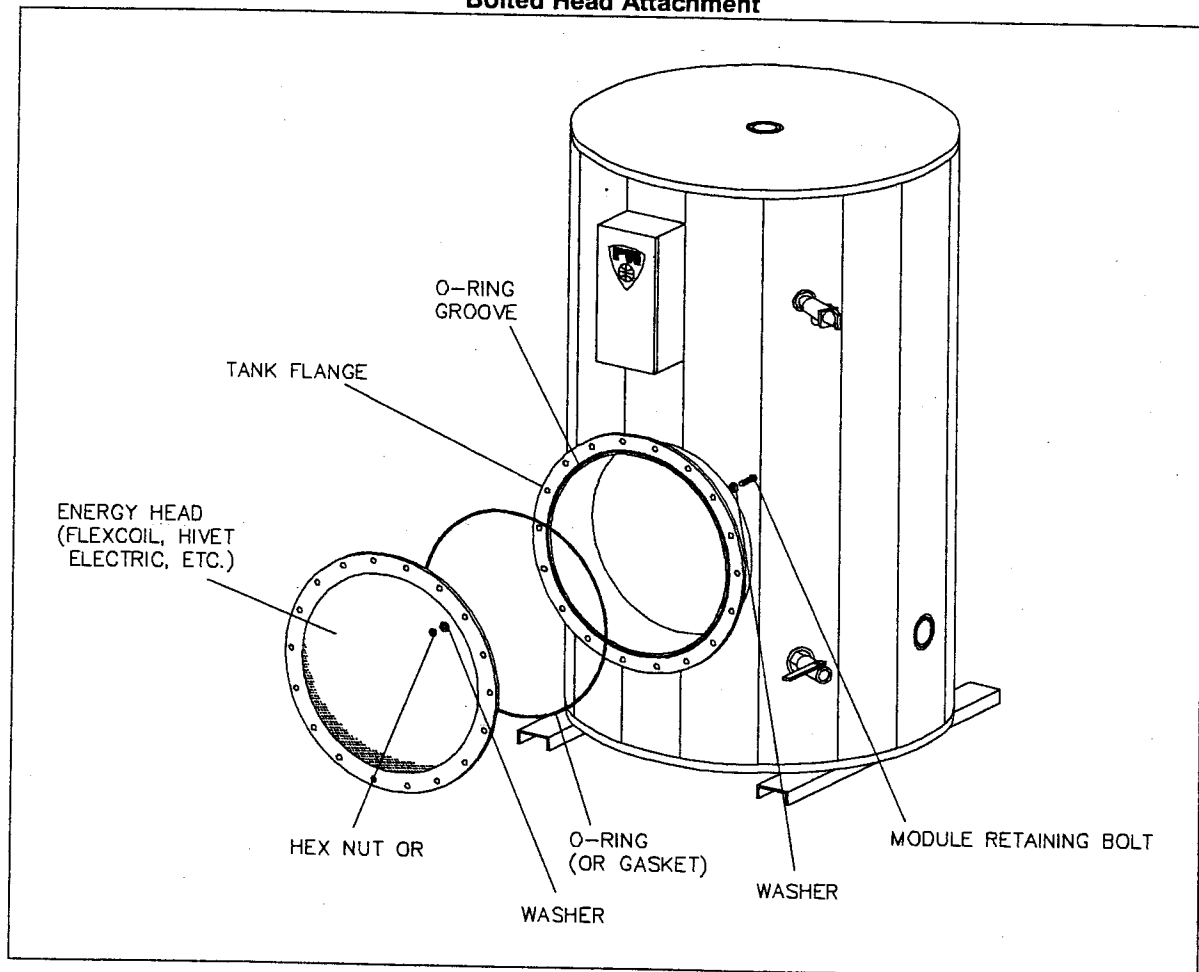

Figure 9
To clean heater through the rear access flange or the module opening if no rear access head is available, proceed as follows. (See Figure 9, page 17 for detailed head removal procedure.)
5. Replace the head or the TURBOPOWER® module. (See Figure 9, page 17.)